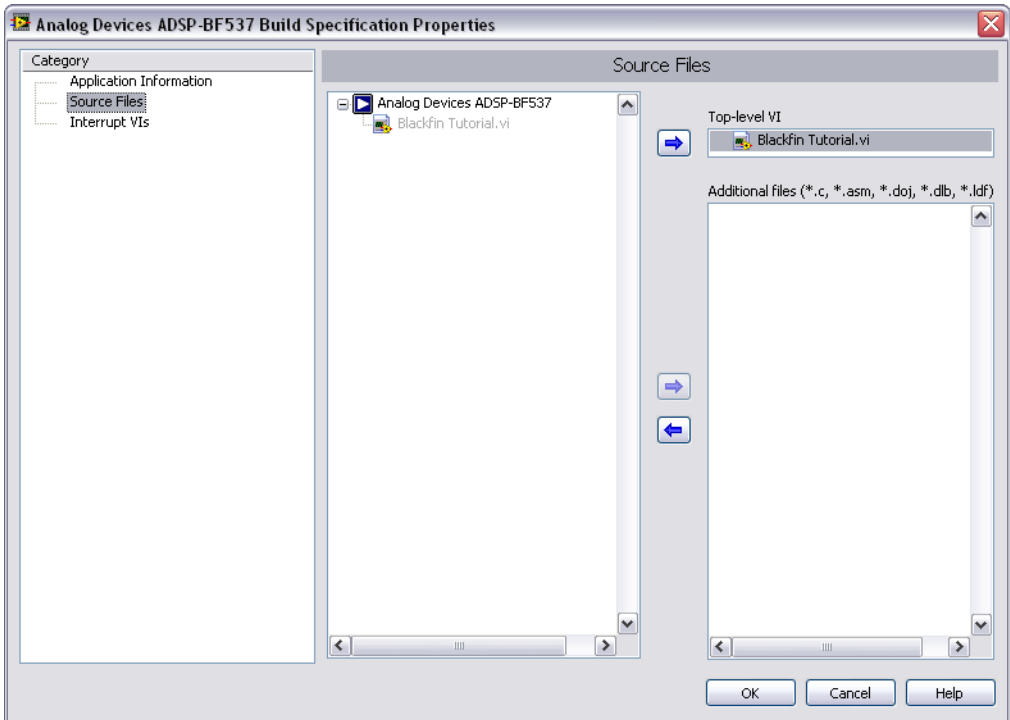

Figure 15. Selecting the Top-Level VI for the Build Specification
7. Select **Source Files** from the **Category** list and select **Blackfin Tutorial.vi** in the source files list. Click the blue right arrow button, shown at left, to move the VI from the source files list to the **Top-level VI** text box as shown in Figure 15.